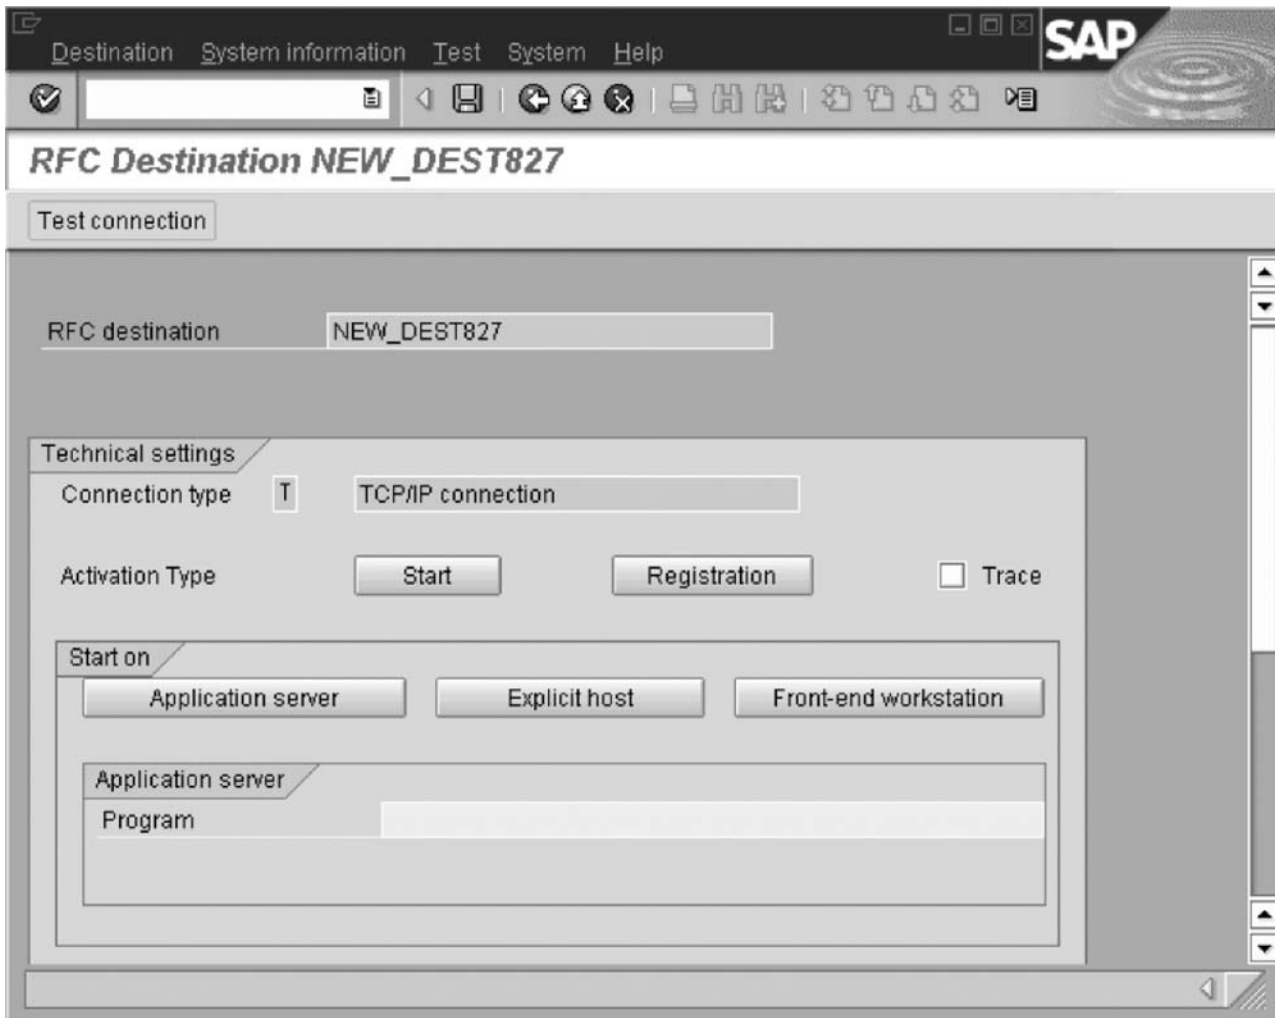

Figure 47. RFC Destination window for registration
5. From Figure 47 on page 110, access the **Activation Type** and press the **Registration** button next to **Activation Type**.